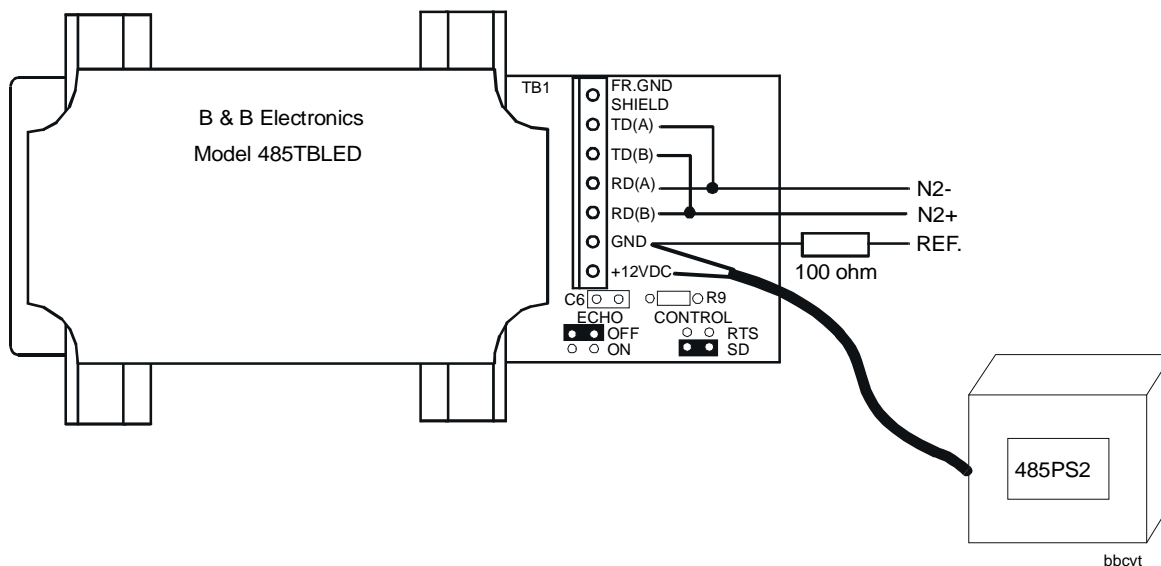

Figure 21: B & B Electronics Converter and Power Supply
The B & B converter uses the same cable as the MM-CVT101 to connect to the PC. The B & B converter has two jumpers (see Figure 21). Several changes are required for use with Johnson Controls N2 devices. The B & B converter has separate connections for the transmitting and the receiving N2 lines (see Figure 21). These connections must be connected together to provide a 3-wire communication trunk.
1. Using Figure 21, insert one jumper in the CONTROL SD location and insert the other jumper in the ECHO OFF location. The SD position causes a timed internal RTS signal to be generated when the TD signal is active.